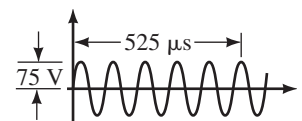

FIGURE 15–79
16. Two waveforms have frequencies f_1 and f_2 . If $T_1 = 4 T_2$ and waveform 1 is as shown in Figure 15–77, what is f_2 ?
18. For the sinusoidal waveform of Figure 15–80,